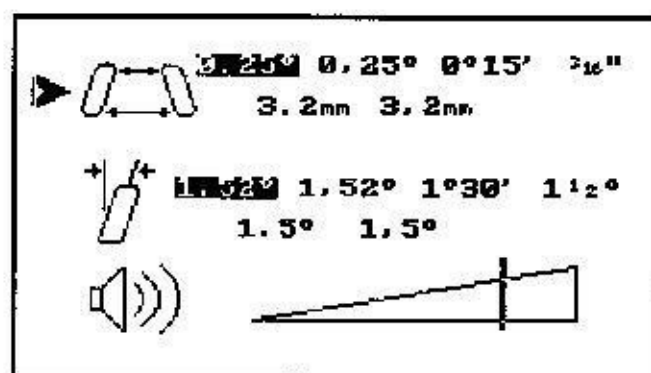

Figure 2-2
To enter the setup module, press SETUP. The first setup screen will appear on the display (see figure 2-2). Use UP and DOWN to move to the item you wish to change.
1. Press SETUP. The first Setup screen will appear in display (see Figure 2-2).